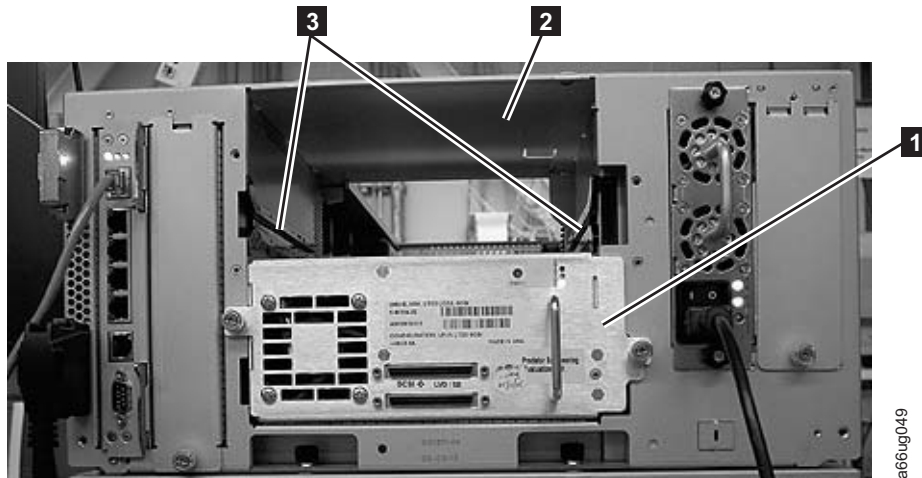

Figure 4-20. Guide rails and guide slots inside a drive slot
1. Align the drive sled with the guide rails and guide slots along the tracks (**3** in Figure 4-20 on page 4-19).